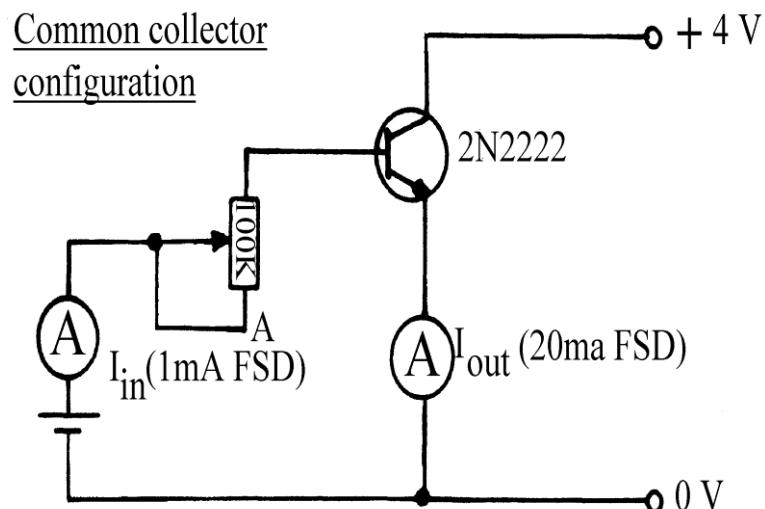

Figure 6
- Construct the circuit shown in Fig. 6.